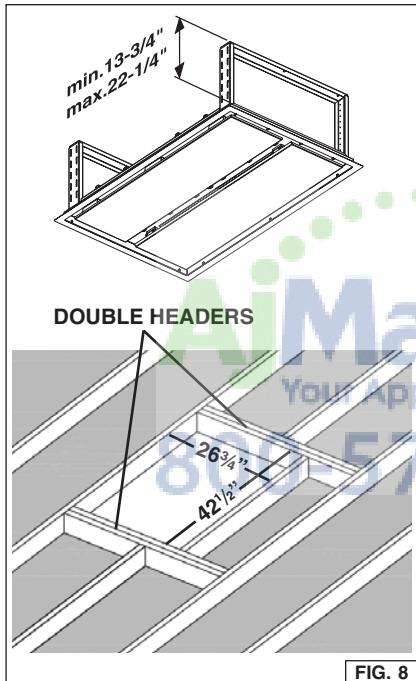

FIG. 7
5. The blower can be rotated according to the air outlet location. See Fig. 7 for air outlet dimensions.